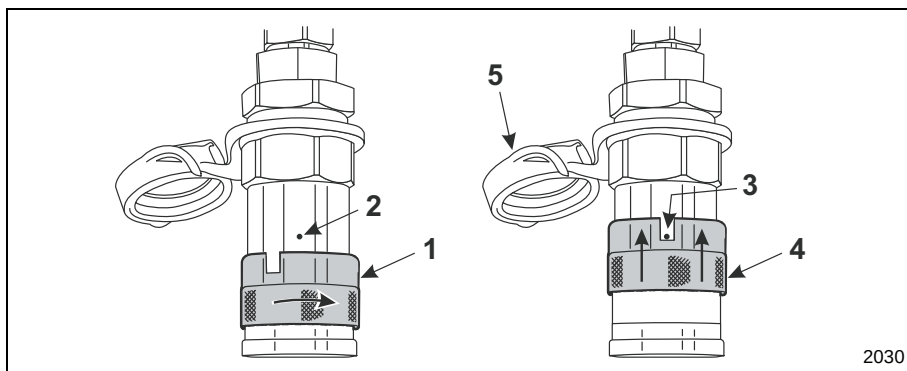

Figure 13 Quick Connect Locking Collar
3. Some of the female couplings will have a lock button preventing accidental disconnection. To release this type of quick connect, rotate the collar on the female quick connect (Item 1, Figure 13) to align the notch on the collar with the lock button (Item 2, Figure 13).
4. Slide the collar backwards on the female quick connect (Item 4, Figure 13) until it stops against the lock button. The male connector will be released.
8. Cover the hose connections with the dust caps (Item 5, **Figure 13**) and store the hydraulic hoses to prevent damage.